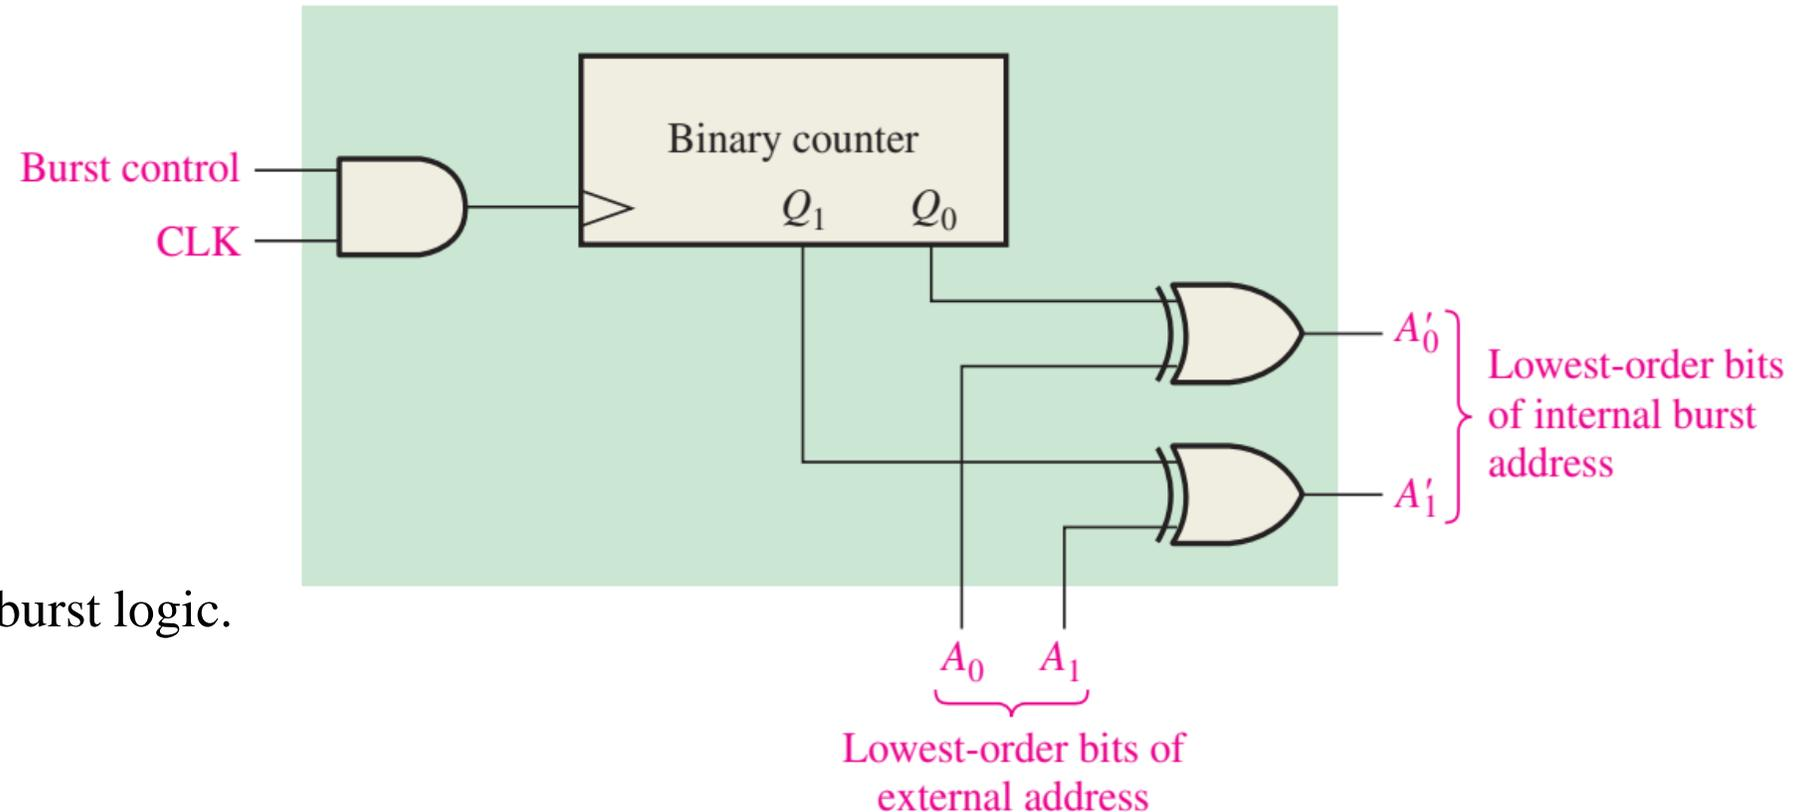

Fig. 2-11 Address burst logic.
- The address burst logic consists of a binary counter and exclusive-OR gates as shown in Fig. 2-11.